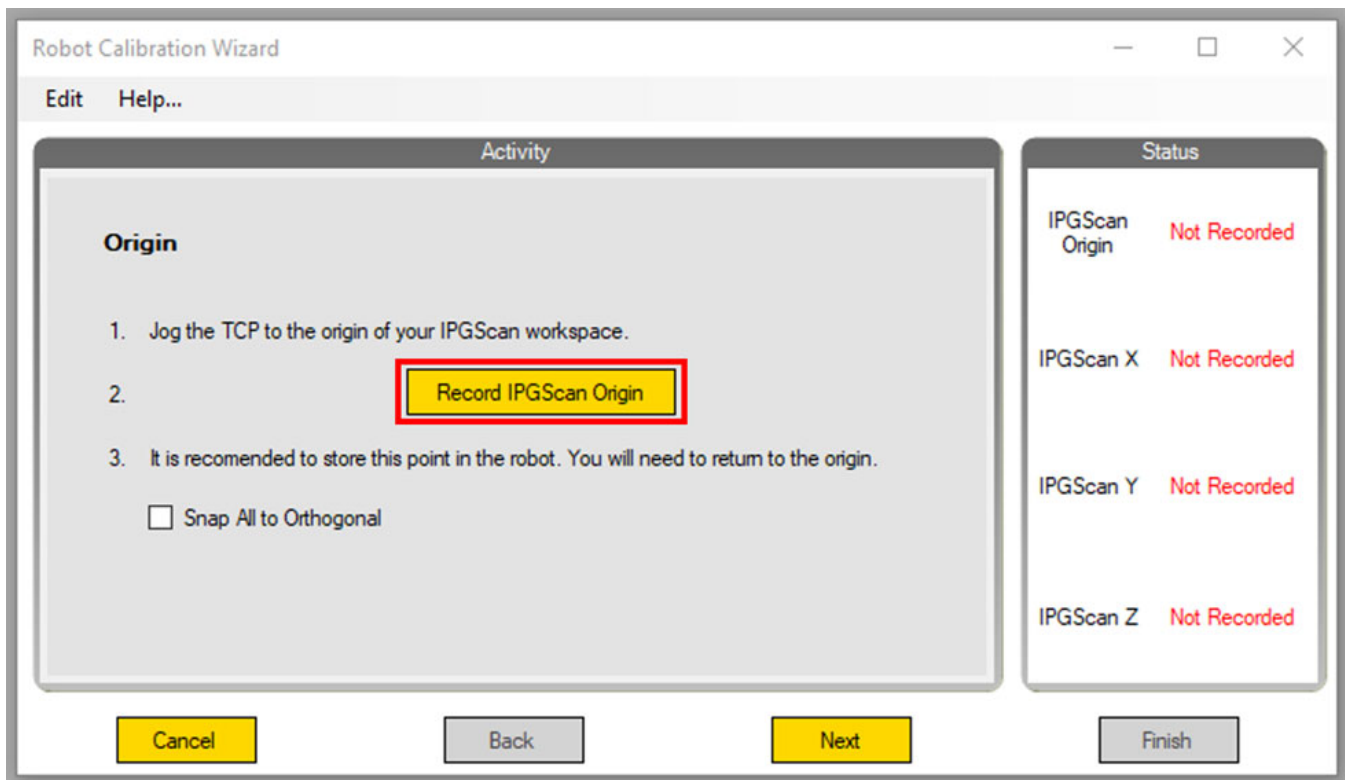

Figure 272: Calibration Wizard Origin
3. On the first page, the origin is recorded (see Figure 272). The origin can be anywhere within the robot's work area. When the robot is positioned, click the "Record IPGScan Origin" button. On the right window, it should now display that the IPGScan Origin is recorded.